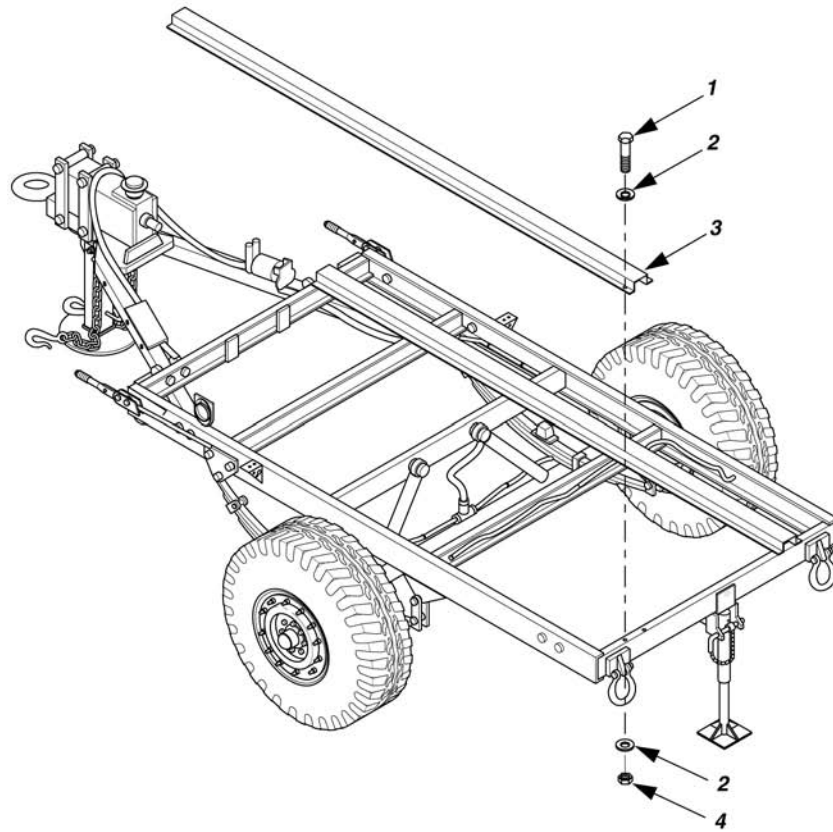

Figure 5-25. Replace PU-797 Generator Mounting Rail.
Remove self-locking nuts (4, figure 5-25), flat washers (2), cap screws (1), and mounting rail (3).